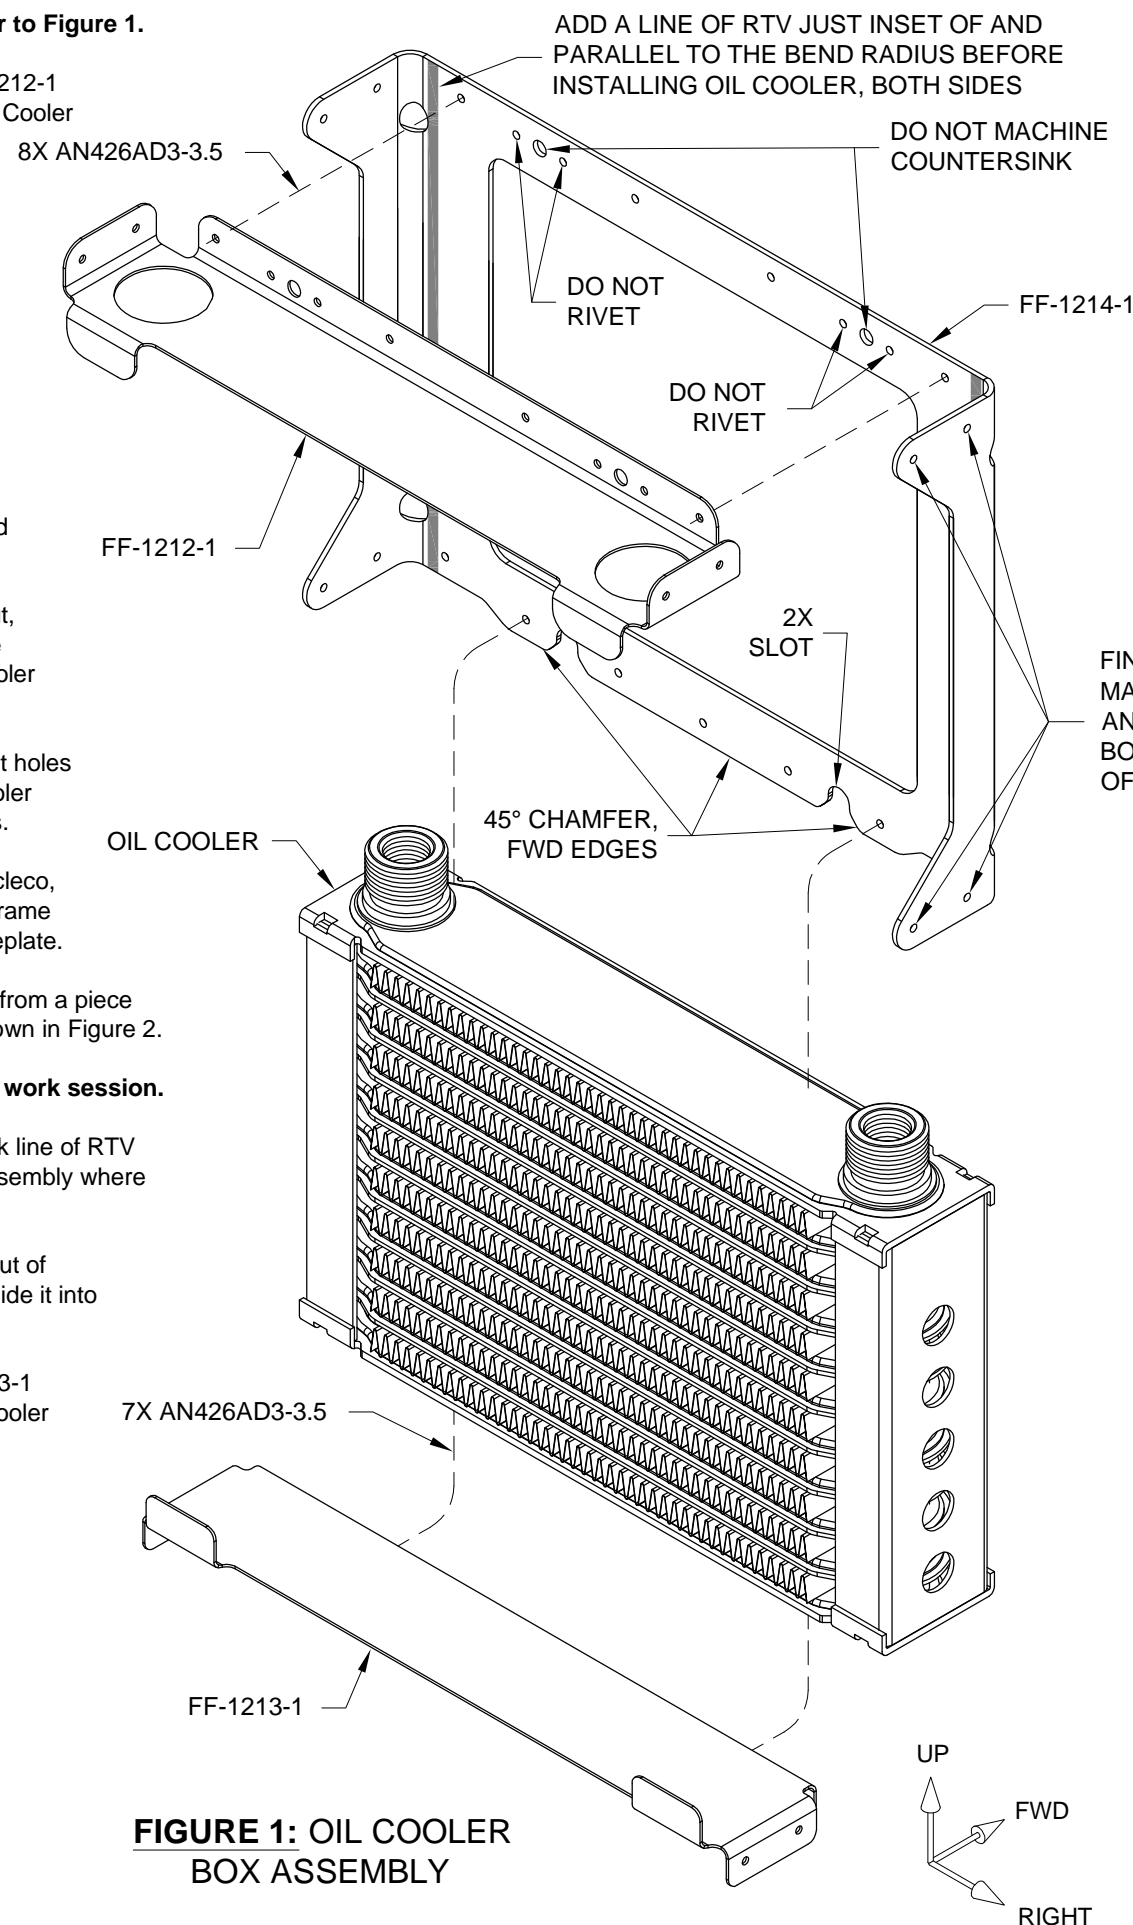

FIGURE 1: OIL COOLER BOX ASSEMBLY
Step 9: Apply a 1/8 in. [3.18 mm] thick line of RTV to the inside of the Oil Cooler Box Assembly where shown in Figure 1.
Step 11: Cleco, then rivet the FF-1213-1 Oil Cooler Frame Bottom to the Oil Cooler Box Assembly as shown in Figure 1.